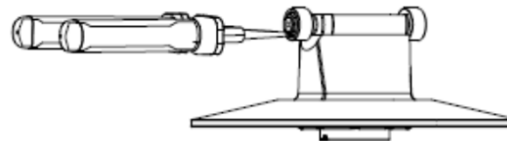

Figure 21
- Using the snap ring pliers, remove the external retaining ring (5) from the sliding sheave (2) (figure 21).